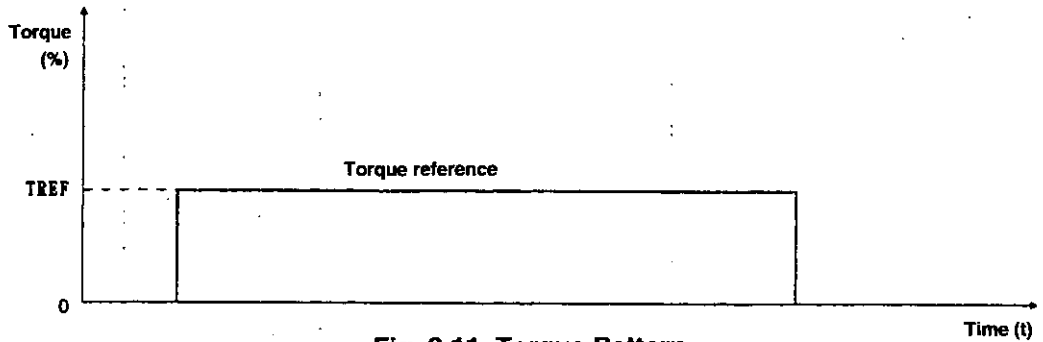
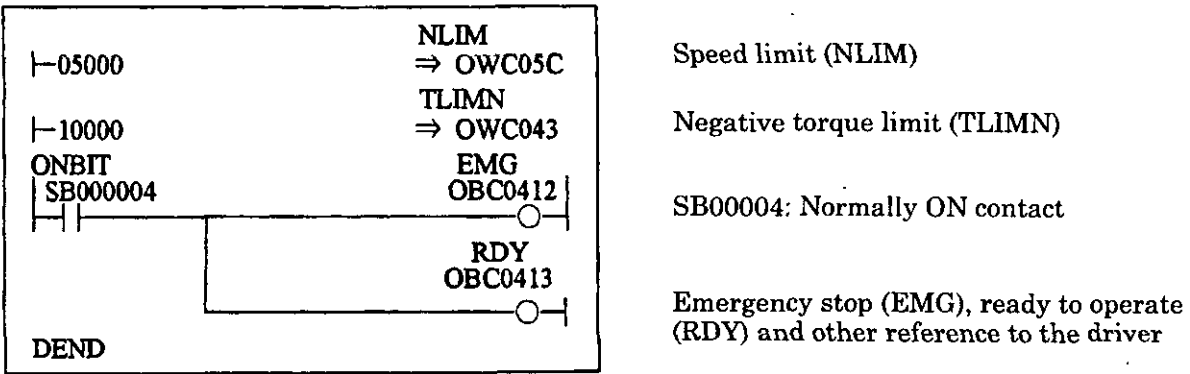

Fig. 3.11 Torque Pattern
Fig. 3.12 Initial Settings (DWG A02)
- In Fig. 3.11
In the example of Fig. 3.11, the VS-866 at the 2nd axis of the module number 1 is used. If the module number and the axis number are different, refer to 1.3 "Module number and Servo Parameter Register Number" and change the register number. For details of the register (OW□□□), refer to Chapter 5 "Servo Parameters".
Figs. 3.12 and 3.13 are examples of using a programming language to show torque patterns in Fig. 3.11.
In Fig. 3.12, the user program is created in DWG.A, and settings are initialized. Save the initial values of the servo parameters by pressing the "Save" key after setting the initial values in the Fixed Parameter screen of the CP-717. Initial values saved are automatically set in the servo parameters when the CP-9200SH is turned ON. Thus, this is the same as the method of creating a user program in DWG.A and initializing settings. The method of setting initial values in the servo parameter setting screen and saving them is recommended.